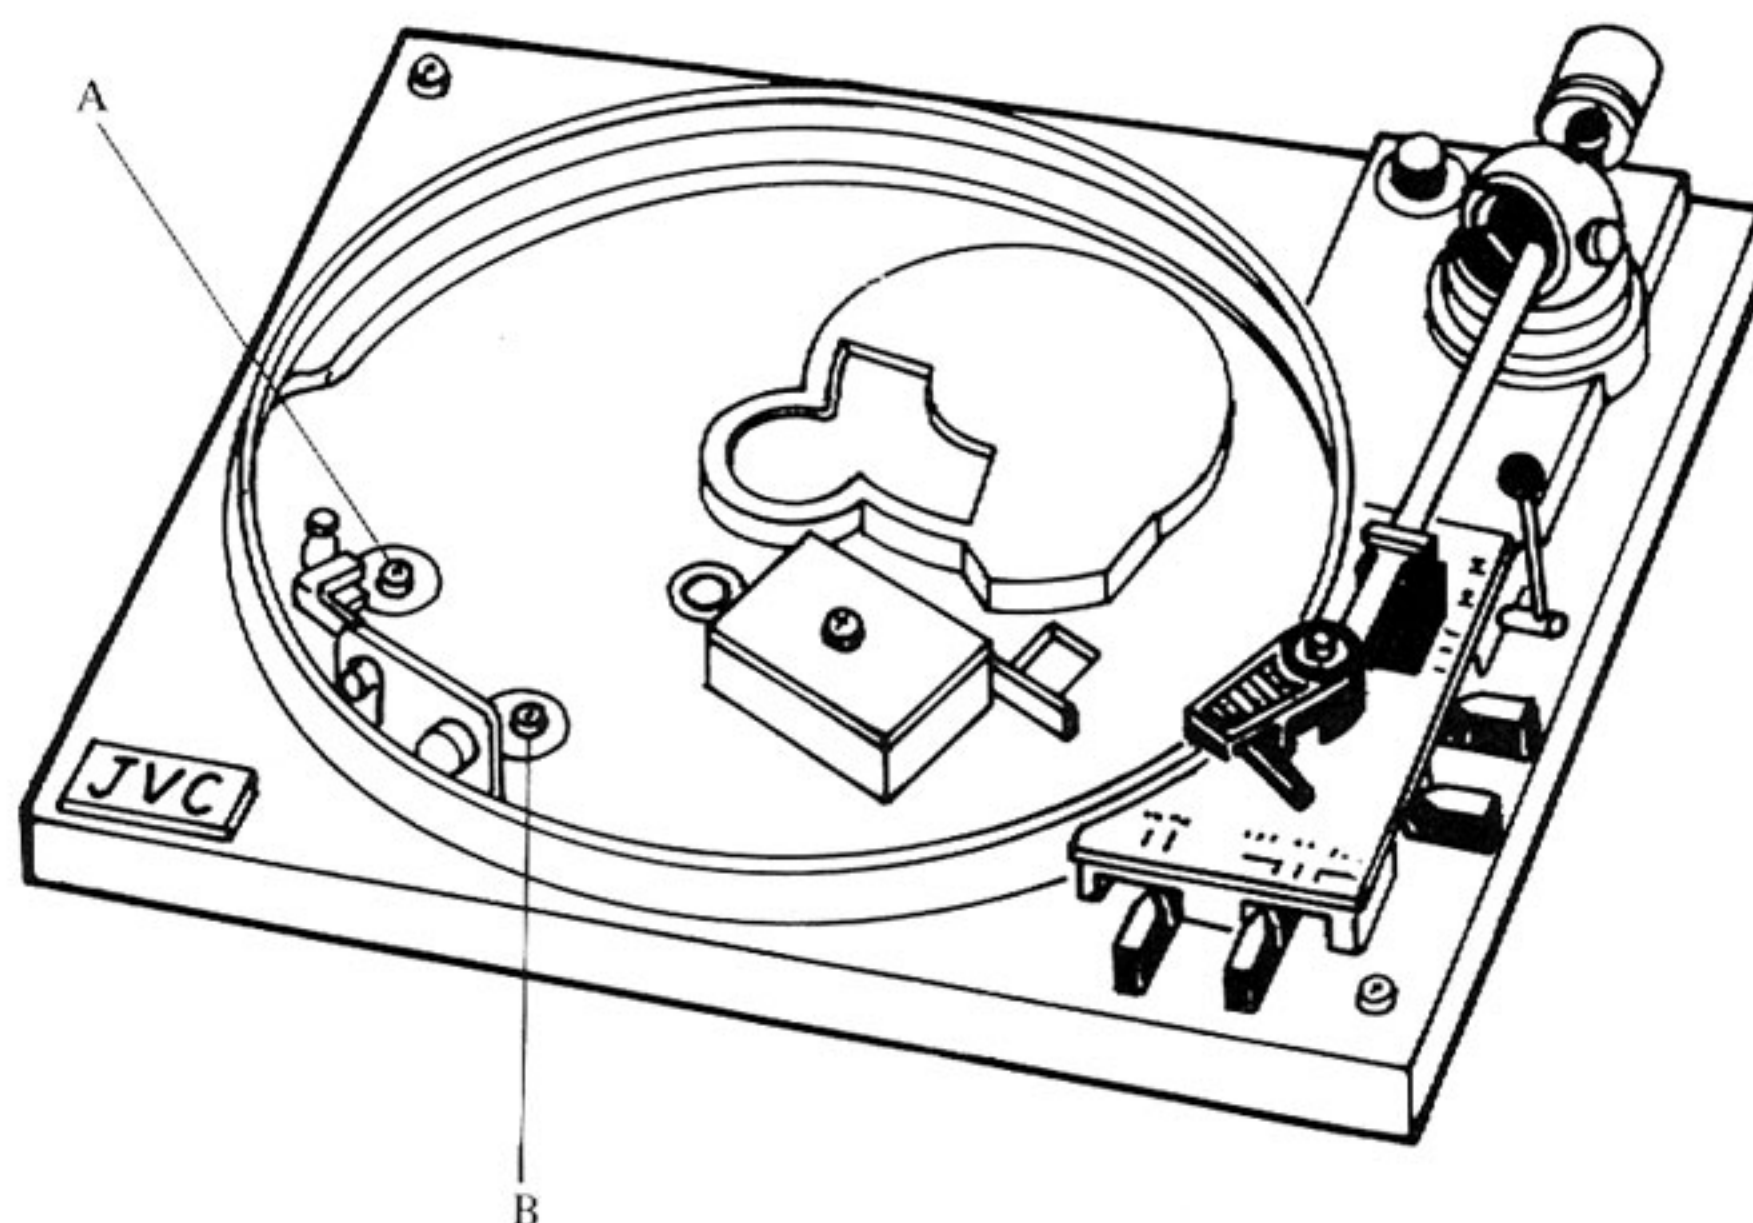

Fig. 2
1. Remove the two red screws (A and B in Fig. 2) holding the motor.